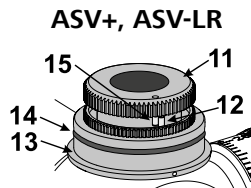

Fig. 5
5. Lift the tappet **(11)** out of the locking mechanism and set it so that the stop pin **(15)** of the tappet **(11)** lies on the stop pin **(12)** of the locking ring **(13)**, as shown in **Fig. 5**.